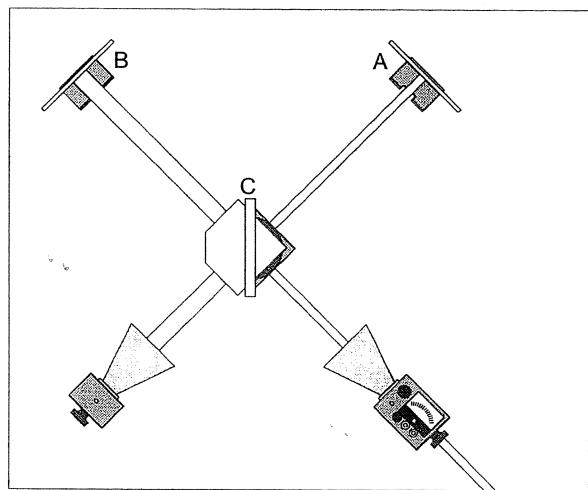

Figure 9.1 Michelson Interferometer
Like the Fabry-Perot interferometer, the Michelson interferometer splits a single wave, then brings the constituent waves back together so that they superpose, forming an interference pattern. Figure 9.1 shows the setup for the Michelson interferometer. A and B are Reflectors and C is a Partial Reflector. Microwaves travel from the Transmitter to the Receiver over two different paths. In one path, the wave passes directly through C, reflects back to C from A, and then is reflected from C into the Receiver. In the other path, the wave reflects from C into B, and then back through C into the Receiver.
- ① Arrange the equipment as shown in Figure 9.1. Plug in the Transmitter and adjust the Receiver for an easily readable signal.
- ② Slide Reflector A along the Goniometer arm and observe the relative maxima and minima of the meter deflections.
- ③ Set Reflector A to a position which produces a maximum meter reading. Record, x_1 , the position of the Reflector on the Goniometer arm.